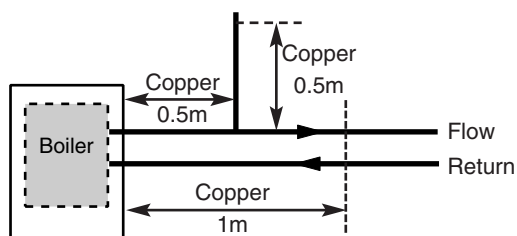

Fig. 7a
4. In systems using non-metallic pipework it is necessary to use copper pipe for the boiler Flow and Return. The copper must extend at least 1 metre from the boiler and include any branches (Fig. 7a).